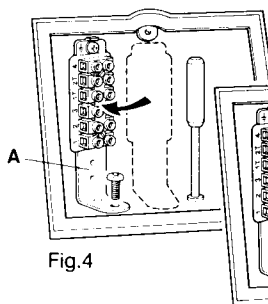

Fig.4
2. Undo fixing screw of main terminal block bracket 'A' and reposition adjacent to conduit entry (fig.4). Use the locating hole to position bracket and tighten fixing screw. (Not applicable to ALE).